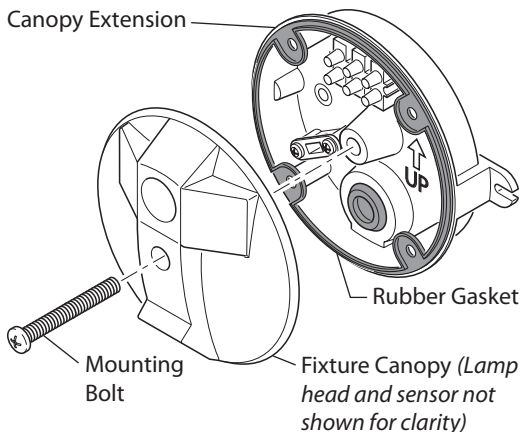

Figure 1
1. Remove the center mounting bolt connecting the fixture canopy to the canopy extension (see Figure 1). *Note:* Be sure rubber gasket is on the canopy extension.